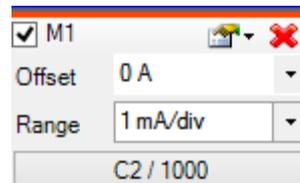

Figure A-10
- Add a custom channel and set it up to display Channel 2 divided by 1000 (which will be the current). When you do this you should see that the scale for this custom channel is still in Volts. We need to change that. The display scale window should look like Figure A-10. To change the units to Amps, open the drop-down menu just to the left of the X in the upper right. At the bottom of the next menu you will find a place to change the units to Amps. You will still be able
to select the number of Amps per division in the range menu of Figure A-10. Set up the display to show 1mA/div as shown. Now you should be displaying the diode current in your plot.